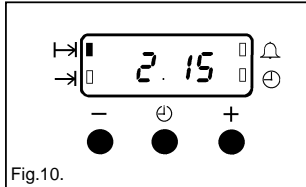

Fig.10.
- iii) To set the length of cooking time, press the Selector Control button until the 'Cook Time' () indicator neon is illuminated. Press the increase control (+) until the required length of cooking time is displayed, e.g. 2 hrs 15 mins as Fig. 10. Depress the decrease control (-) if necessary.